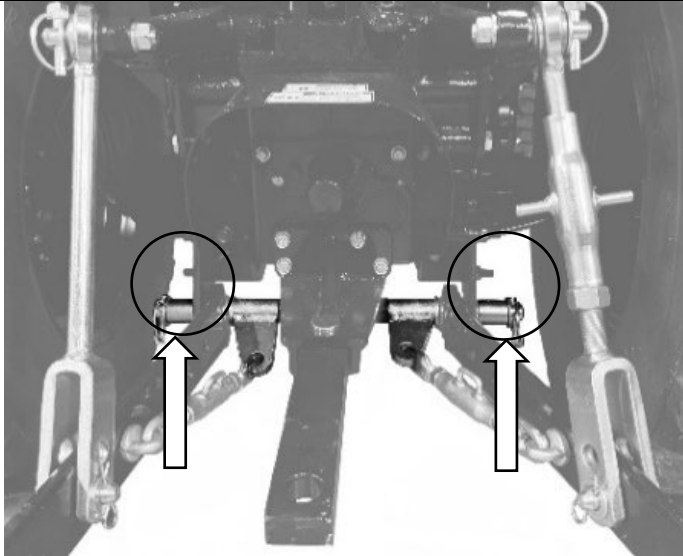

Figure 1B
1. Locate and remove the two Spacers, Lynch Pins, and Flat Washers on the lower lift arms (Figure 1B). Retain the Lynch Pins and Flat Washers to be used in the next step.